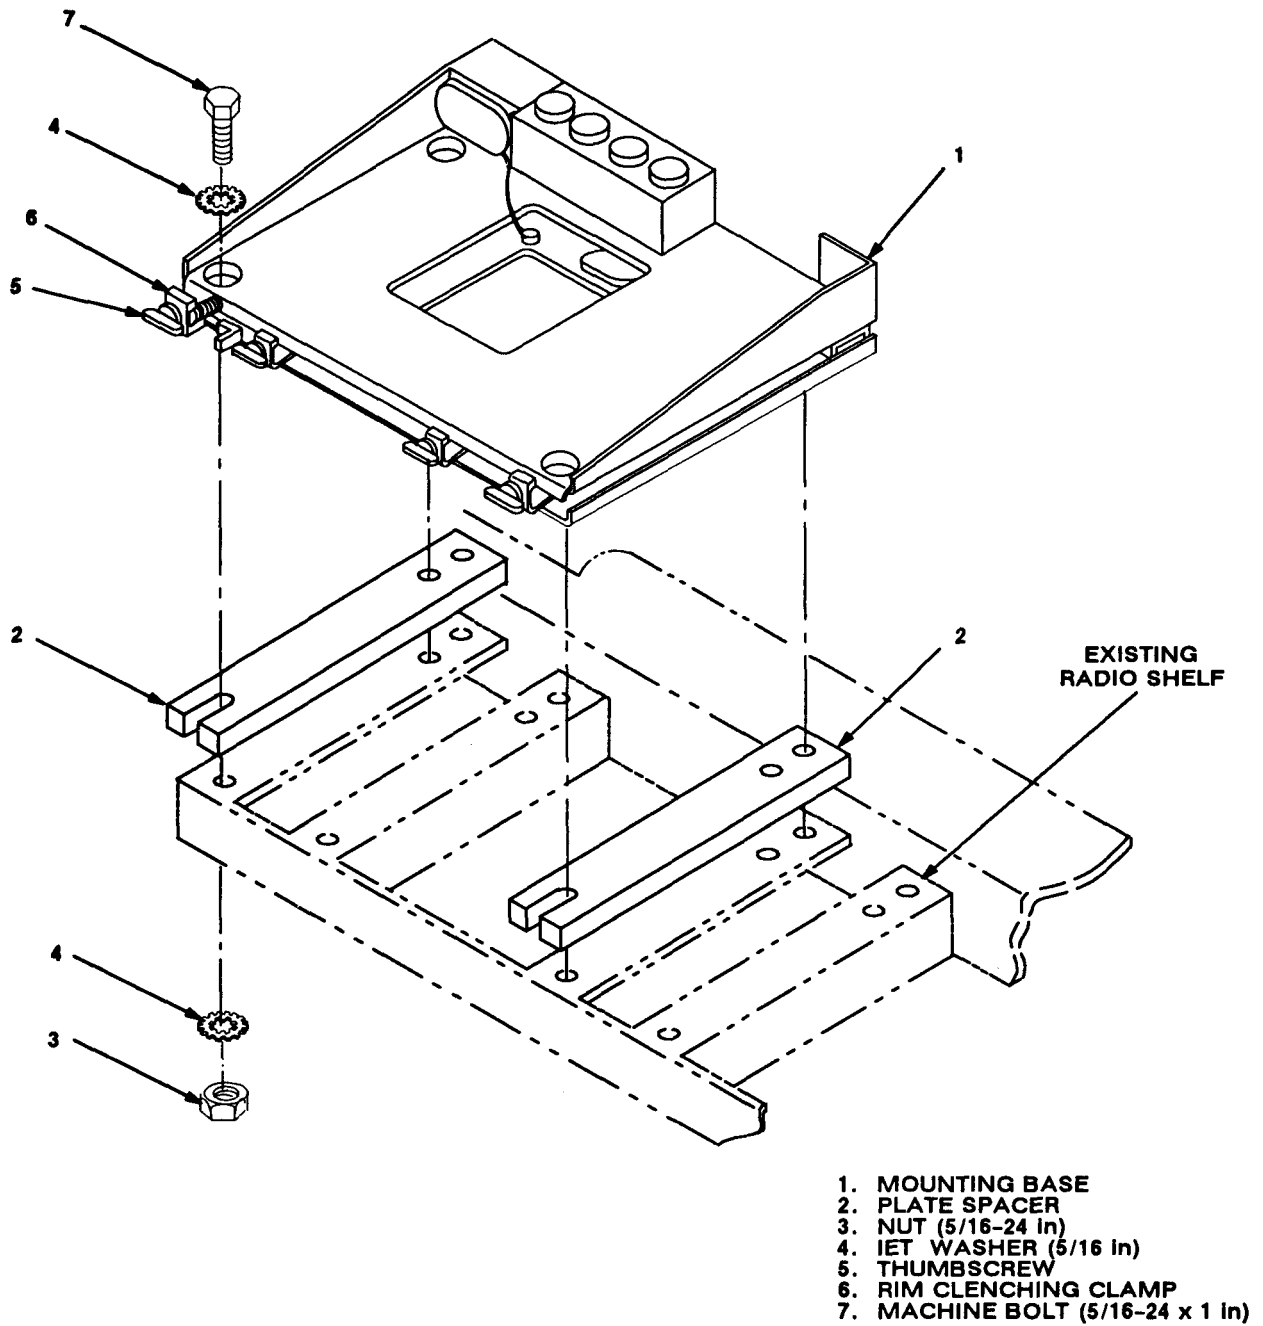

Figure 5-5. Mounting Base Installation: Rear Curbside Passenger Area
5.3 Installation of Mounting Base, Electrical Equipment MT-6352/VRC (mounting base). Remove and retain attaching bag of 5/16 in mounting hardware for installation. To insure good electrical grounding, any rust, corrosion or paint around mounting holes in radio shelf should be removed before installing the mounting base. See figure 5-5 and perform the following steps.
a. Two plate spacers (2).	Place on existing radio shelf; then aline rear holes and front slots with matching hole pattern in shelf. See figure 5-5.
b. Two outer thumbscrews (5).	Turn ccw until both sets of threads have cleared center of holes.
c. Mounting base (1).	Place on top of two plate spacers (2); then aline holes with rear holes and front slots in plate spacers (2).
d. Four machine bolts (7), eight IET washers (4) and four nuts (3).	Install and secure to mounting base (1) and shelf,	Tools: 1/2 in socket and 1/2 in open/box wrench.
e. Two outer thumbscrews (5).	Tighten and secure to rim clenching clamps (6) and mounting base (1).